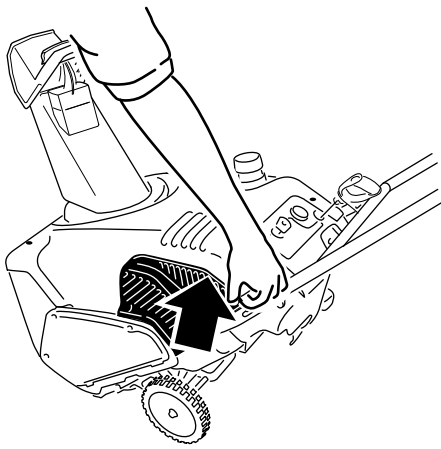

Figure 29
4. Lift up on the left rear corner of the shroud and pull the exhaust baffle down and out of the engine compartment (Figure 29).